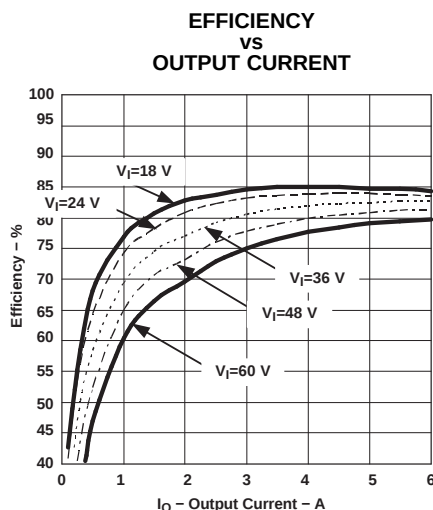
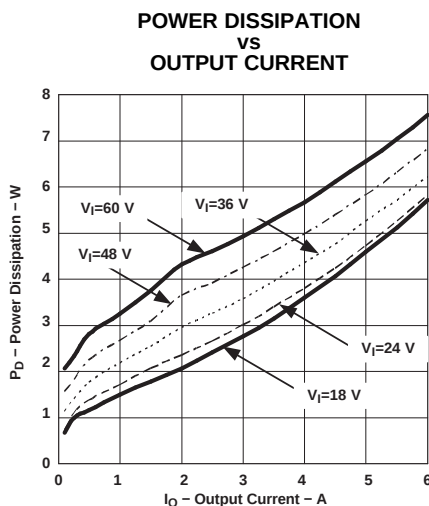
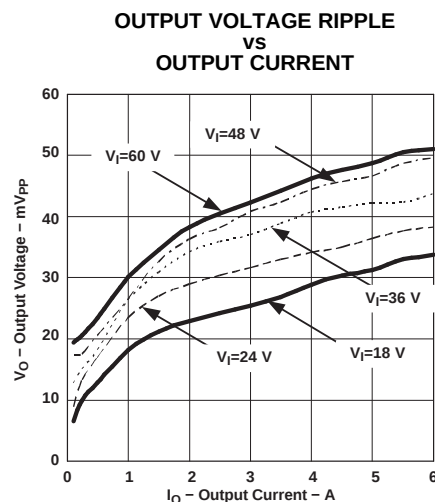

Figure 11.
Figure 12.
Figure 13.
- (5) All data listed in Figure 11, Figure 12, and Figure 13 have been developed from actual products tested at 25°C. This data is considered typical data for the dc-dc converter.